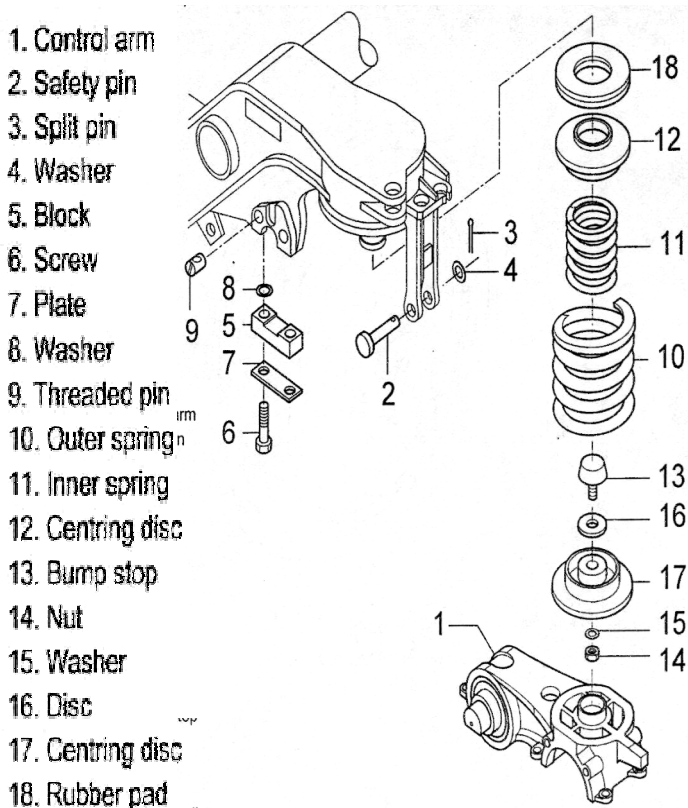

Fig. 3.21 Dismounting the Primary Suspension
After pressing the spring pack, remove the safety pin (Fig. 3-21) extracting the split pin (3) and the washer (4). Separate the control arm (1) from the bogie removing the fixing blocks (5), the plates (7), the washers (8) and the threaded pins (9) by unscrewing the screws (6). Release carefully the pressure until it is possible to remove the external (10) and internal (11) springs, and the upper centering discs (12). Remove the lower centering disc (17), and then unscrew the bump stop (13) removing the nut (14), the washer (15) and the disc (16).